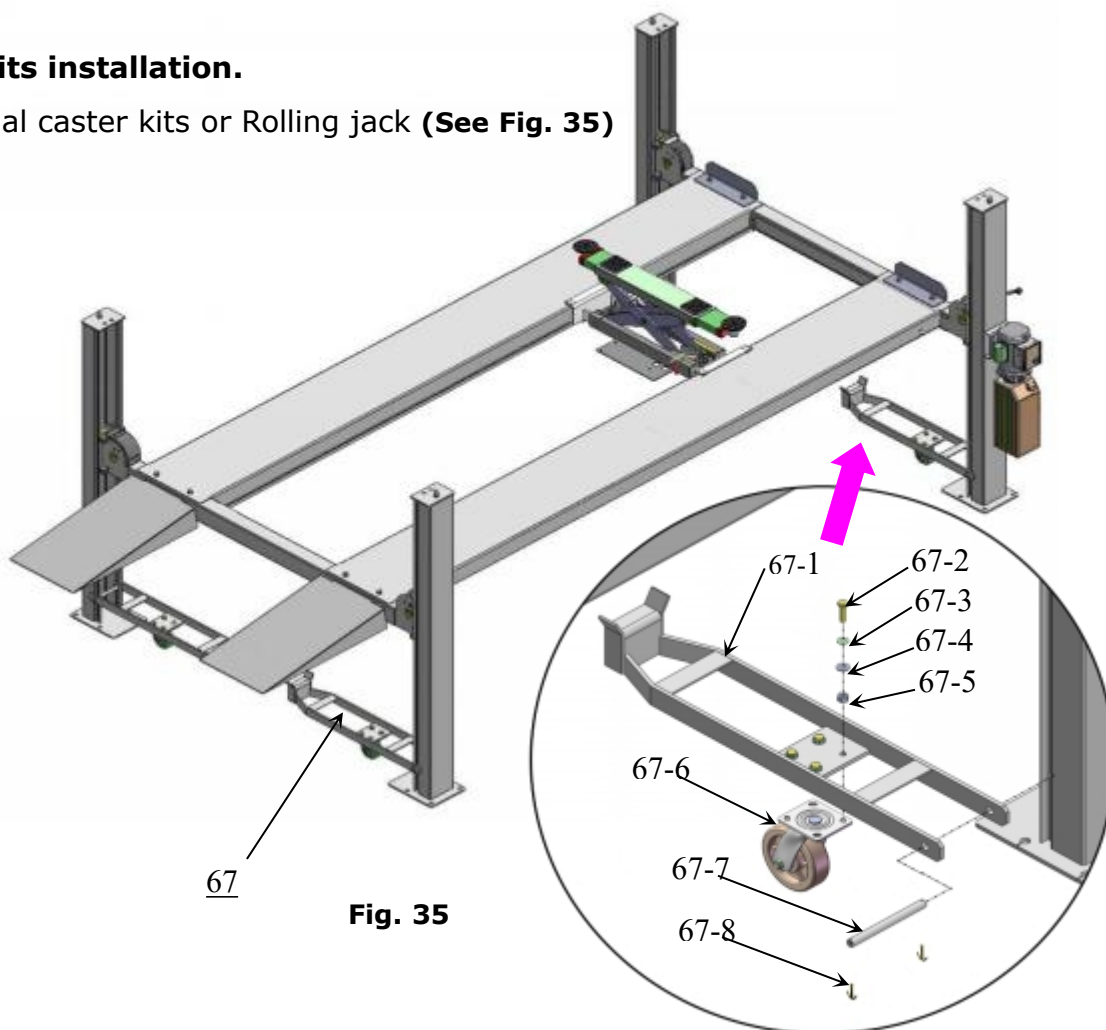

Fig. 35
1. Install optional caster kits or Rolling jack (See Fig. 35)